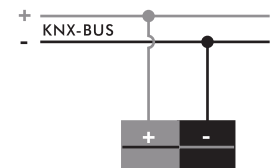

FIG. 7
4.2.1.4 . Please refer to illustration of FIG.7 for correct wiring and fix the power box into European standard junction box with 2 pcs screws (See FIG. 8).
- 4.2.2.3. Please refer to illustration of FIG.7 for correct wiring and then screw the power box cap tightly.
4.2.3.4. Refer to wiring diagrams for correct wiring (See FIG. 7).